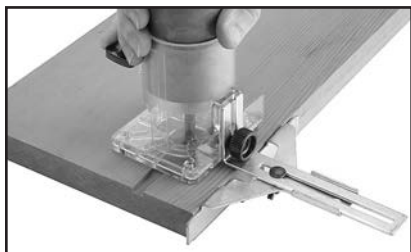

Figure 17. Example of router configured for interior cut.
4. Loosen guide lock knobs, position straight guide at desired depth on workpiece (see **Figure 17**), and tighten lock knobs.